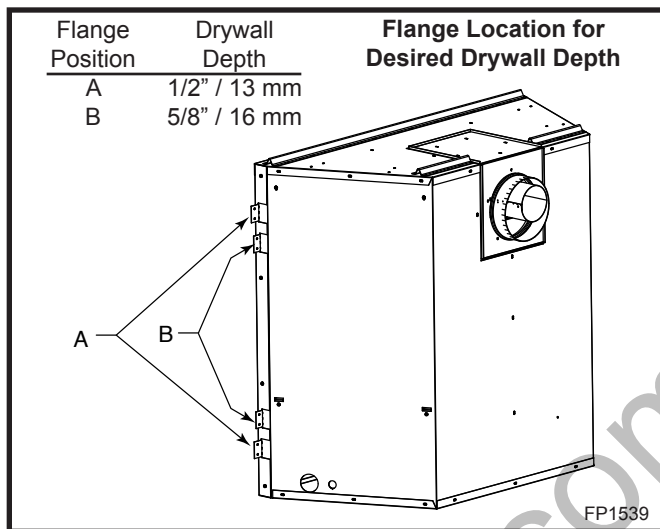

Fig. 5 Drywall flange location for DV360.
DV360 (Fig. 5)
1. Nailing flanges are supplied with the fireplace (found on the fireplace hearth). To level the box and secure it firmly in place, remove the nailing flanges from the hearth and install at the sides of the fireplace as shown in Figure 5.